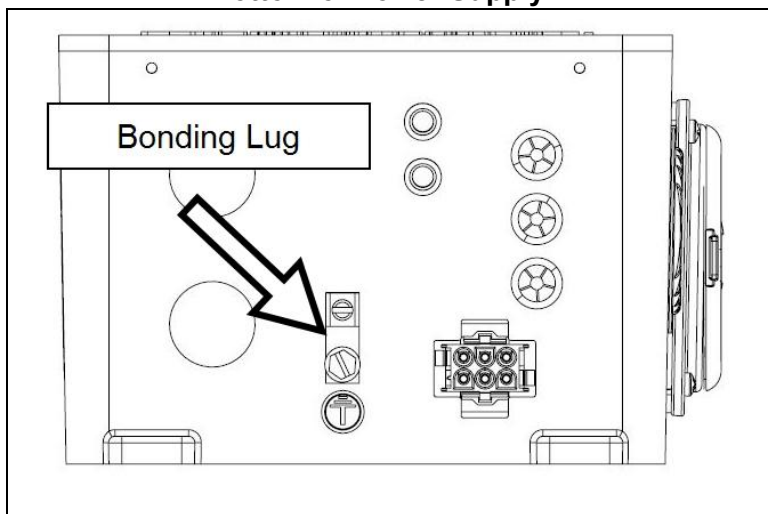

Figure 8
- Use the lug located on the bottom of the power supply with #8 sold bond wire to the pool equipment. See **Figure 8**.